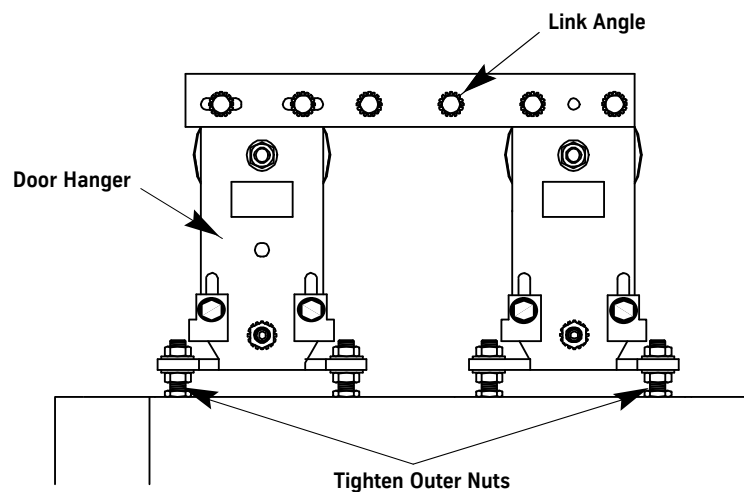

Figure 30 - Tighten Outer Jamb Nuts
7. Tighten the outer top jamb nuts to lift the door evenly off of the sill about 5/16" See Figure 30.